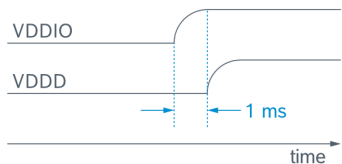

Figure 26: Power-up sequence diagram
- Since VDDD and VDDIO do not share the same power rail, a power-up sequence has to be implemented to ensure the latching of the correct information during start-up (see Figure 26)
- After the required period, a digital output (DO) of the host is used to enable the PMIC #2
Cons	<ul style="list-style-type: none"><li>▪ Separate circuits need to be considered for different voltages</li><li>▪ Power-up sequence has to be implemented (VDDIO 1 ms before VDDD, see Figure 26)</li></ul>